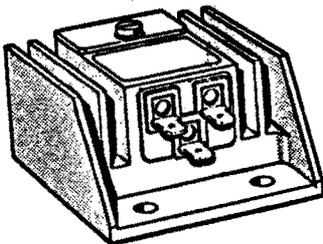

FIG. 32
When the unit is used to charge the battery alternating current must be converted to direct current and a dual, half-wave rectifier is used as shown in Figs. 32 and 33. Current and voltage are not regulated. Unlike a DC generator, the unit is not damaged if output circuit is open. Alternator output is two phase AC, with two identical (yellow) wires running from the generating coil. On models without battery, one of the lead wires is insulated and taped to the remaining wires.
Rectifiers are equipped with two fuses which can be inspected or replaced after removing the rectifier cover (Fig. 32). Rectifier diodes can be checked using an ohmmeter or continuity light, measuring from each (51) terminal on rectifier to fuse clip. Test should show continuity in one direction but not with leads reversed. If either diode is defective, rectifier must be replaced.